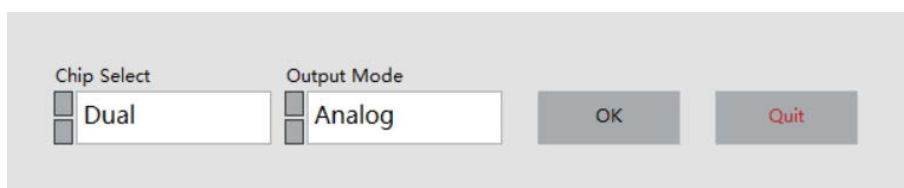
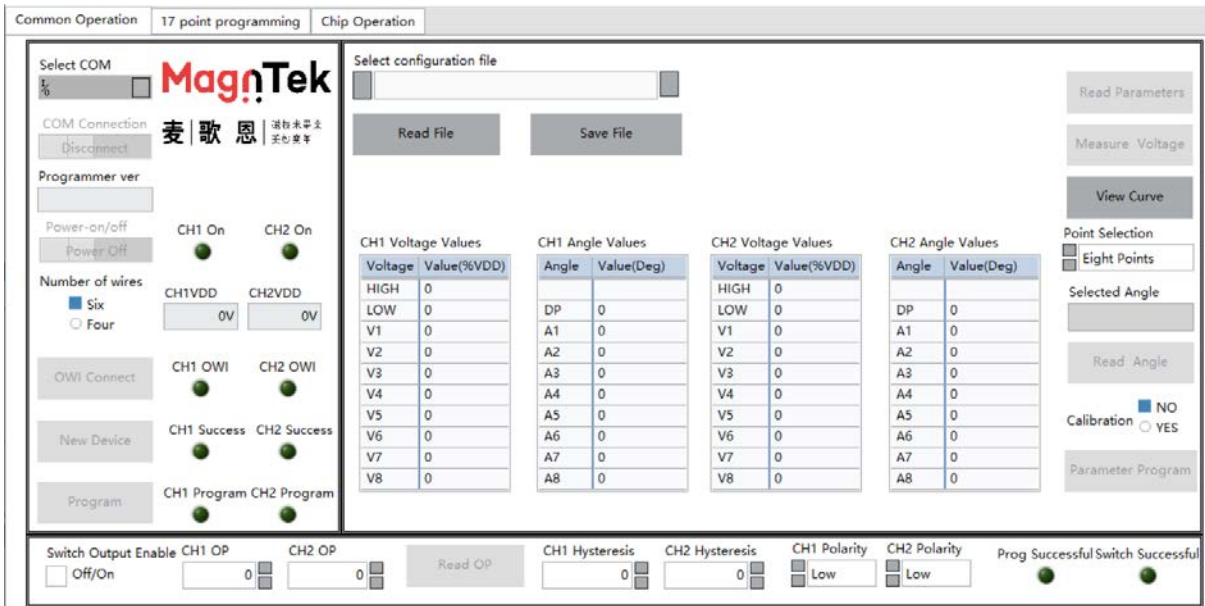

Figure 5.2.1 Chip Select
Figure 5.2.2 Programming main interface
- 3、 Double-click the "PB600\_MT6511GUI.exe" file to open the software and bring up the chip mode selection interface (Figure 5.2.1). Here, select "Dual Chip" and "Analog Output" parameters, then click "OK" to enter the programming interface for this mode (Figure 5.2.2).